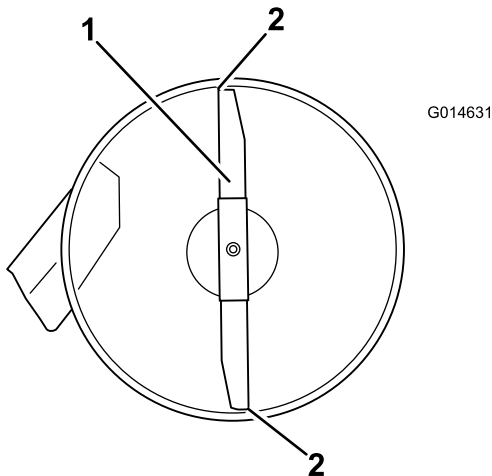

Figure 51
4. Carefully rotate the blades so they are facing front to rear (Figure 51).
5. Measure from the tip of the front blade to the flat surface and the tip of the rear blade to the flat surface (Figure 51).
9. After adjustment, check the front-to-rear slope again, continue adjusting the nut until the front blade tip is 1.6 to 7.9 mm (1/16 to 5/16 inch) lower than the rear blade tip (Figure 51).